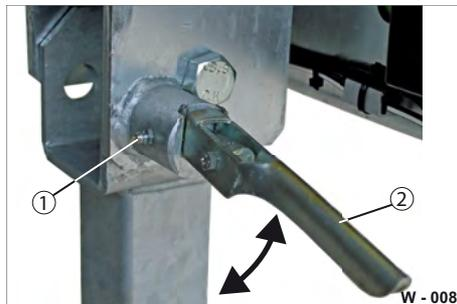

Fig. 8 Lubricating tilt feet
- ▶ Grease the tilt feet using a grease gun on the lubrication nipple (Fig. 8/1).
- ▶ Pull on the locking handle (Fig. 8/2).